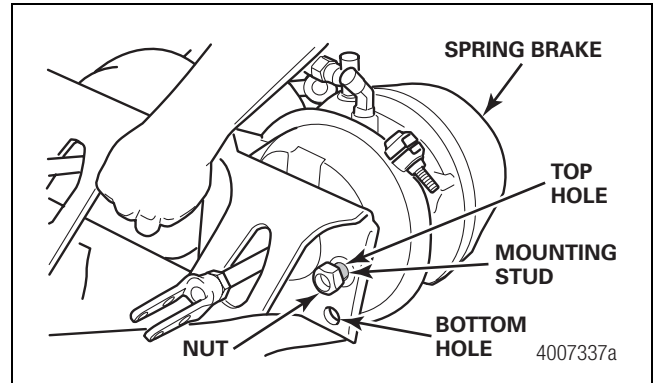

Figure 31
- Remove the nuts on the spring brake mounting studs. Note which holes the mounting studs run through on the bracket. Make sure to reinstall the mounting studs through the same holes during reassembly. Loosen and remove the spring brake chambers from the brackets. Figure 31.